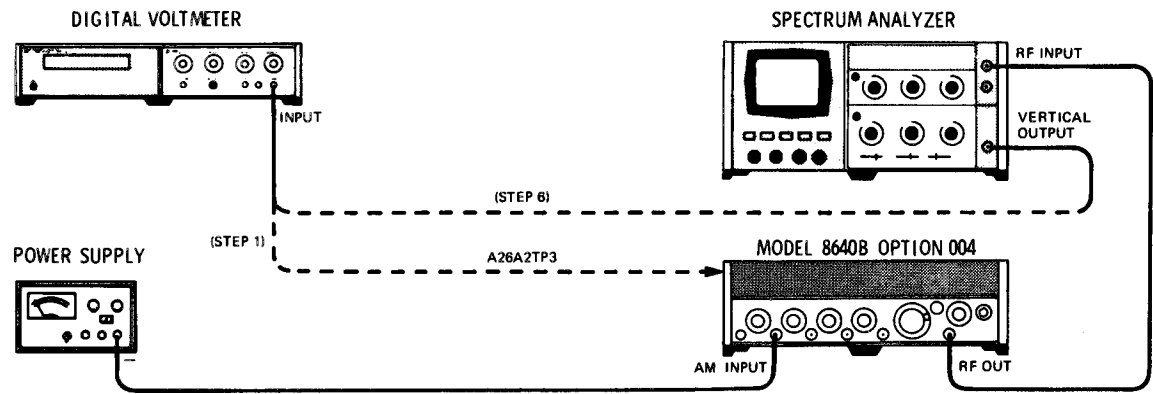

Figure 5-1. RF Detector Offset Adjustment Test Setup
1. Connect the equipment as shown in Figure 5-1 after setting the Signal Generator controls as follows: